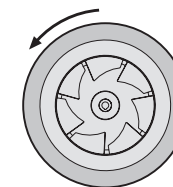

Figure 2
3. Start the fan and shut it off immediately to check rotation of the wheel, see Figure 2.
Wheel Rotation - Direction of wheel rotation is critical. Reversed rotation will result in poor air performance, motor overloading and possible burnout. Rotation should be counterclockwise when viewed from the fan inlet as shown in Figure 2. If wheel rotation is incorrect, consult support. Fan RPM should be checked and verified with a tachometer.